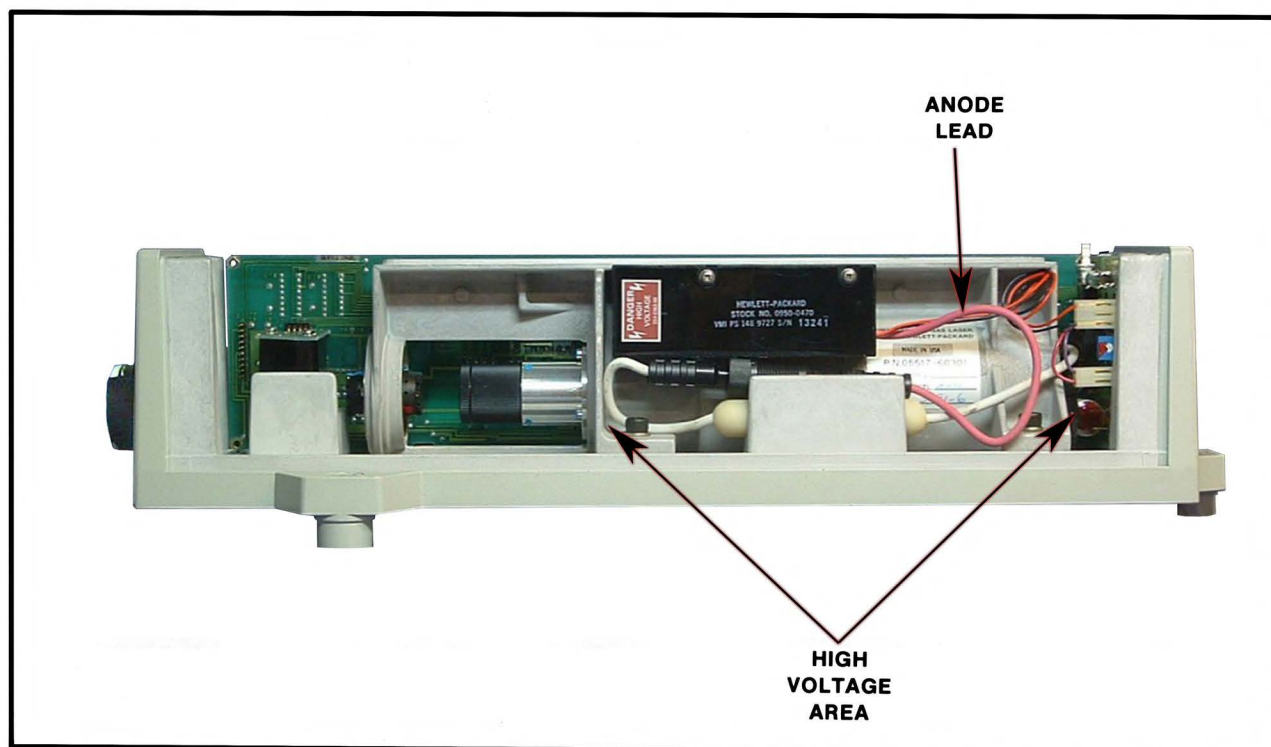

Figure 5-3. 5517A High Voltage Area and Anode Lead
- f. Locate the anode lead that connects between the high voltage power supply and the ballast resistor. See *Figure 5-3*. Clip the milliammeter probe to this lead with the arrow on the probe pointing away from the power supply. Keep the probe as far as possible from and perpendicular to the magnet assemblies. It may be necessary to prop up the probe to achieve the perpendicular orientation.